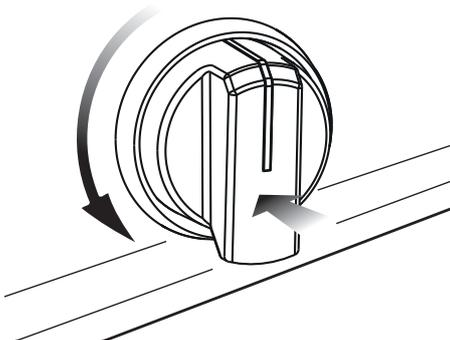

Fig. 2.2
- 1 – Push and turn the knob in an counterclockwise direction up to the **★HI** position (maximum rate), push in and hold the knob until the flame has been lit (fig. 2.2).
2. Push and turn the dial in an counter-clockwise direction up to the **★HI** position (maximum rate), push in and hold the dial until the flame has been lit (fig. 2.2)